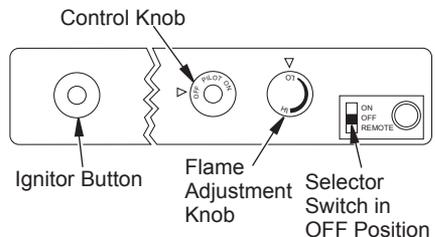

Figure 37 - Control Knob and Ignitor Button Location
4. Press in and turn control knob clockwise to the OFF position (see Figure 37).
5. Wait five (5) minutes to clear out any gas. Then smell for gas, including near the floor. If you smell gas, STOP! Follow “B” in the safety information, starting in column 2, page 23. If you don’t smell gas, go to the next step.
6. Press in and turn control knob counter-clockwise to the PILOT position. Press in control knob for five (5) seconds (see Figure 37).